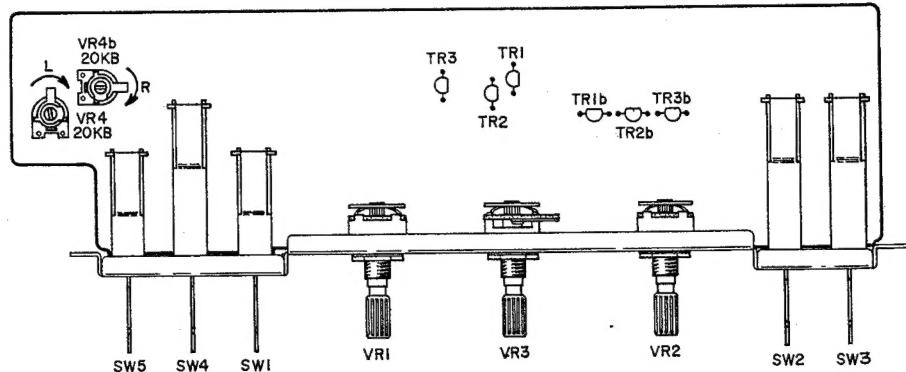

Fig. 7 Tone Control P.C Board M2-5821
- 3) Adjust VR-4, VR-4b so that level meter indicates 3 watts. (Refer to Fig. 7)